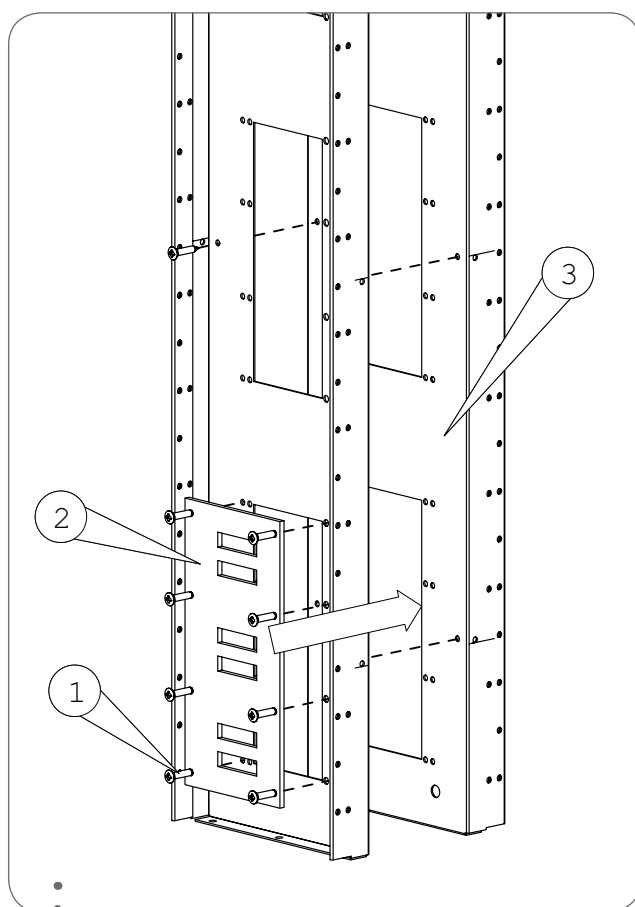

Fig. 2.7. Assembling a frame plate package. The frame plates are fastened together using screws or rivets and insulators are installed as necessary.
The frame plates have the busbar insulator openings opened halfway up, and the remaining ones have blanks that can be easily sawn out. The frame plate packages are assembled on an assembly table. The frame plates (3) are placed back to back and fixed together using assembly screws (1) or pop-rivets, Fig. 2.7..